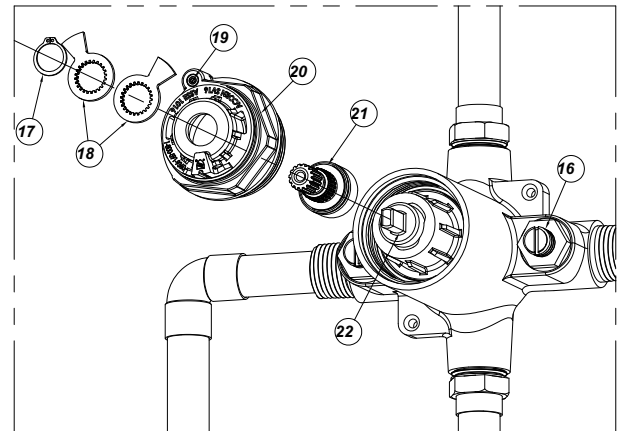

FIGURE 8
Excessive overheating of valve during soldering may damage the cartridge and checkstops. Do not heat valve any higher than needed to flow solder. If a higher temperature method is being used, **all internal components must be removed**. See figures 8 for cartridge removal and 9 and 10 for temperature limit setting.
Excessive overheating of valve during soldering may damage the cartridge and checkstops. Do not heat valve any higher than needed to flow solder. If a higher temperature method is being used **all internal components must be removed**. See figures 8 for cartridge removal and 10 for temperature limit setting.
1. Bonnet Removal: Figure 8.
- Inspect valve cartridge **22** ensuring that 'D' shaped grooves have cartridge screen O-rings **23** in them and that stainless steel screens **24** are seated. See **Figure 8**.